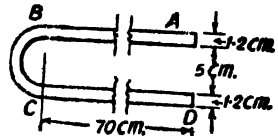

Fig. 8.1
1. Determine the length of a circular rod of 12 mm. diameter required for the U-shaped component shown in Fig. 8.1 below.